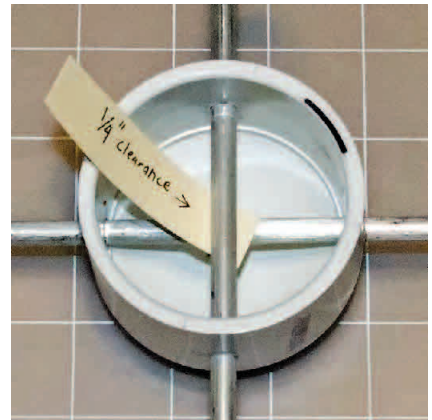

Figure 4 — The rods at 90° orientation are displaced so there is a $\frac{1}{4}$ -inch gap between them.
18) Align the 2-inch PVC cap, and drill or punch holes at 90° intervals similar to those made previously, so opposing holes are in alignment but do not intersect with holes that are at 90°. Leave about $\frac{1}{4}$ -inch separation (see Figure 4). When the 28-centimeter rods are passed through the holes, they must not touch and should have about $\frac{1}{4}$ -inch of clearance. These are the same rods that were used to form the helices.